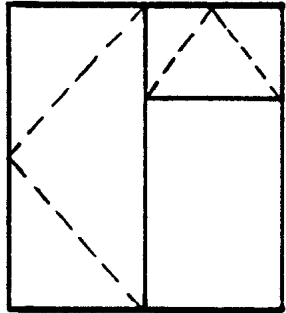

Fig.7
11. Fig.7 shows the line diagram of a traditional casement window.